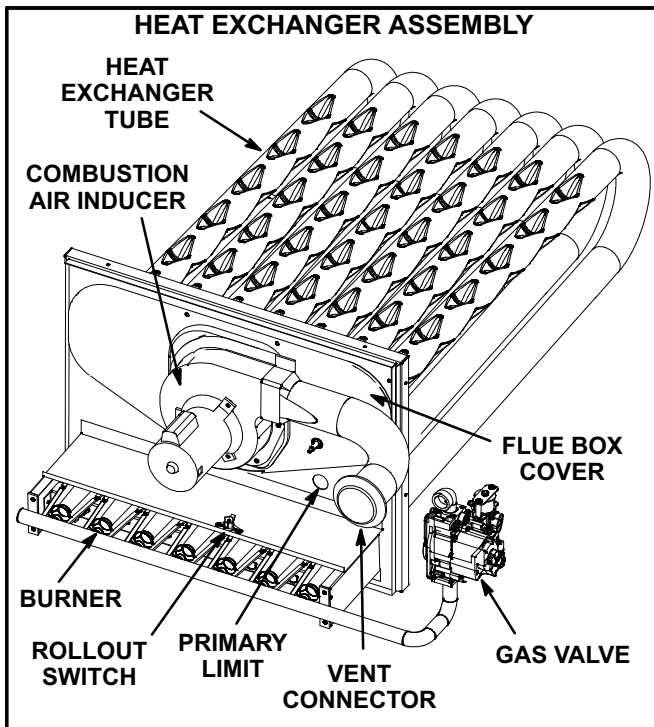

FIGURE 29
Limit controls are factory-set and are not adjustable. The primary limit is located to the right of the combustion air inducer. See figure 29.
- 4- Remove and retain screws securing combustion air inducer to flue box. Remove vent connector. See figure 29.